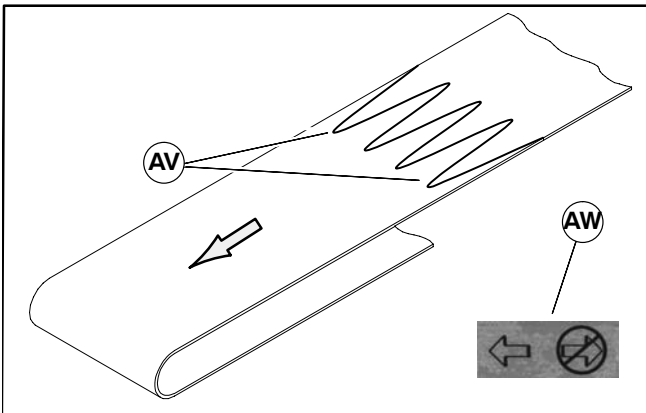

Figure 27
- Orient belt so splice leading fingers (AV of Figure 27) point in the direction of belt travel as identified by the conveyor directional label (AW).
2. Orient belt so splice leading fingers (AV of Figure 27) point in the direction of belt travel as identified by the conveyor directional label (AW).